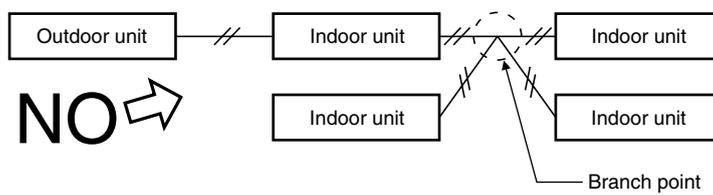

Fig. 5-2
- (3) Do not install inter-unit control wiring such as star branch wiring. Star branch wiring causes mis-address setting. (Fig. 5-2)